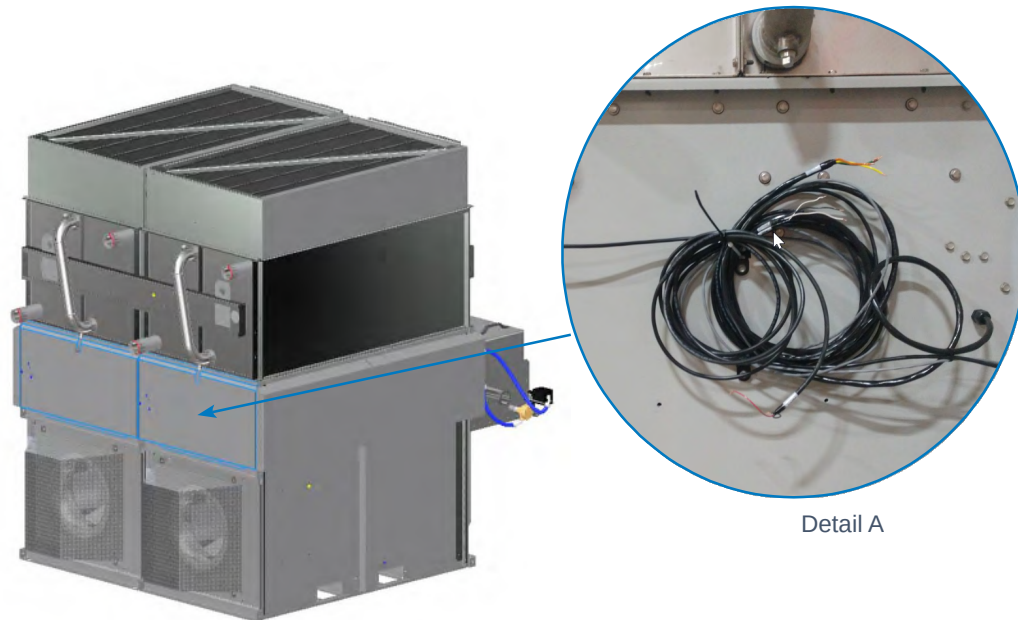
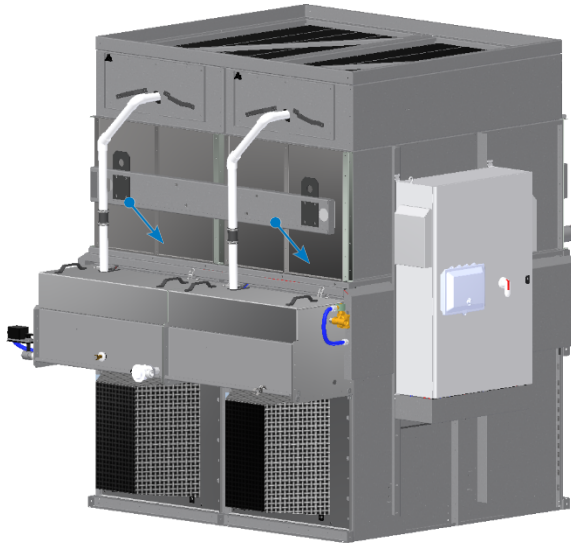

Figure 11. Location of Fan Wiring
Figure 19. Install Wire Cover
1. Remove the back cover panel located on the opposite side of spray water basin (Face D as indicated on Submittal Drawings). Find the fan wire stored under cover panel for each module. See **Figure 11**.
10. Install the wire cover panel at the top of the spray water basin. See **Figure 19**. Install the cover panel at the back and side. See **Figure 11** and **12**. Finally, install the cover panels a